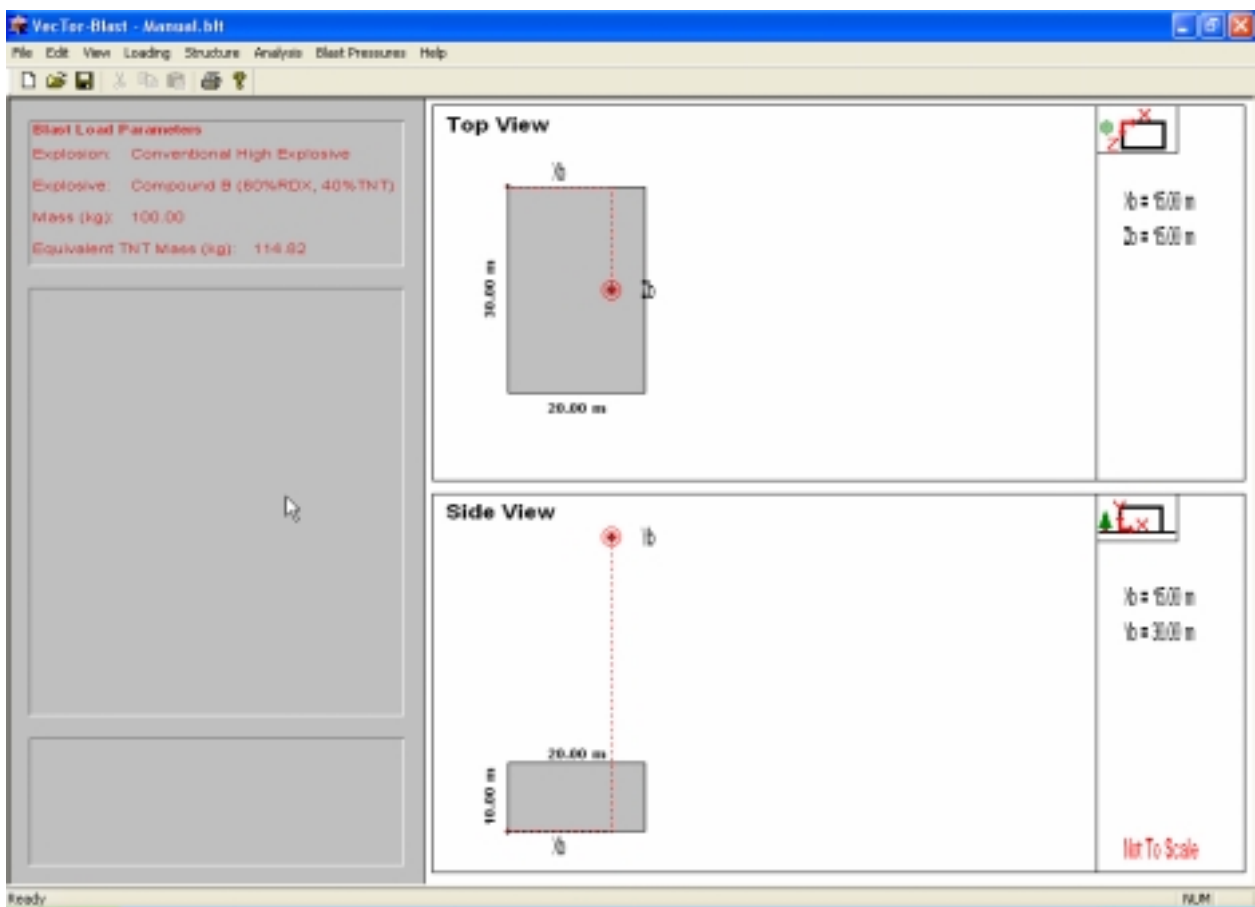

Figure 14 Example view window with the blast location.
8. Click **OK**. The blast location is displayed as shown in Figure 14.